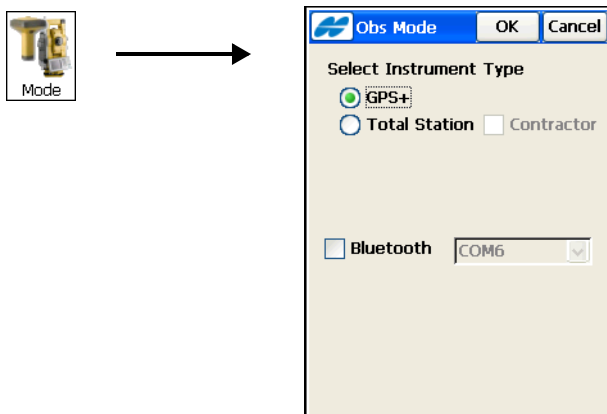

Figure 4-1. Observation Mode
1. Tap the **Mode** icon on the main screen and select the survey mode, GPS+ or Total Station, then tap **OK** (Figure 4-1). Choose Contractor Mode in Total Station survey mode for use by non-surveyors for Topo and Stakeout with total stations. Choose Total Station survey mode to configure a Level survey.